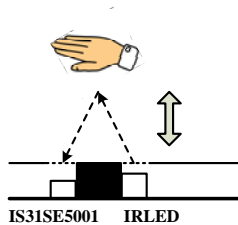

Figure 6 Proximity Detect (Side View)
- PD** Proximity Detection (Figure 6)